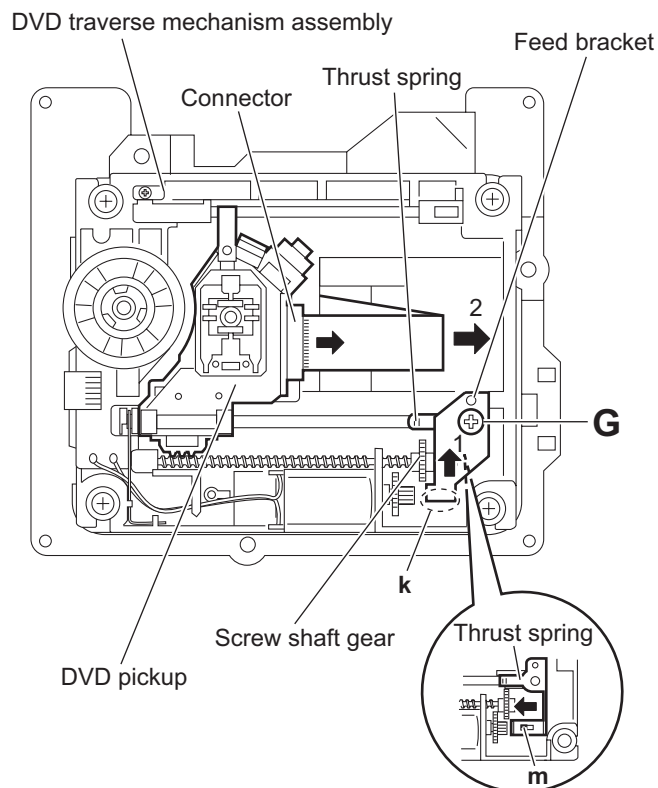

Fig.12
3.3.7 Removing the DVD pickup (See Figs.12 to 14)
- (1) From the top side of the DVD traverse mechanism assembly, release the lock of the connector on the DVD pickup and disconnect the card wire in the direction of the arrow. (See Fig.12.)
- (2) Turn the screw shaft gear in the direction of the arrow 1 to move the DVD pickup in the direction of the arrow 2. (See Fig.12.)
- (3) Remove the screw **G** attaching the feed bracket and remove the feed bracket from the sections **k**. (See Fig.12.)
- (4) Release the claw **m** of the thrust spring in the direction of the arrow and remove the thrust spring. (See Fig.12.)
3.3.8 Attaching the DVD pickup (See Figs.12 to 14)
- (3) Attach the thrust spring and feed bracket with the screw **G**. (See Fig.12.)